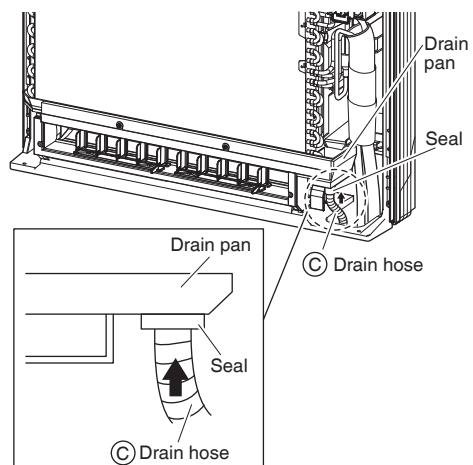

Fig. 2
- Insert the **(C)** drain hose into the socket of the drain pan. (See **Fig. 2**)